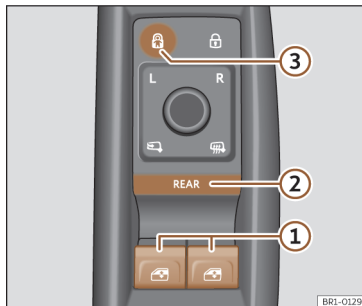

Fig. 81 Detail of the driver's door: window controls.
- ① Electric window operation buttons.
- ② **REAR** Button for activating the power window operation and comfort opening and closing.
- ③ Button to deactivate the power window operation buttons on the rear doors and activate the child lock on the rear doors. By default, the power windows on the front doors can be operated with the buttons >>> **Fig. 81** ①.
REAR Briefly press button >>> **Fig. 81** ② to activate the operation of the rear door power windows. When the operation of the rear door power windows is activated, the button's light is on.
Press the button >>> **Fig. 81** ③ to deactivate the power window buttons located on the rear doors. When these buttons are deactivated the button light turns out.